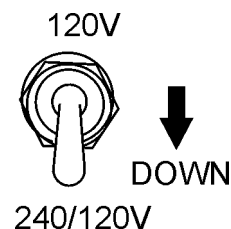

Figure 19. Full Power Switch (Down)
12. **Place the *full power switch*** (Figure 19) in the "**240/120V**" (Down) position.